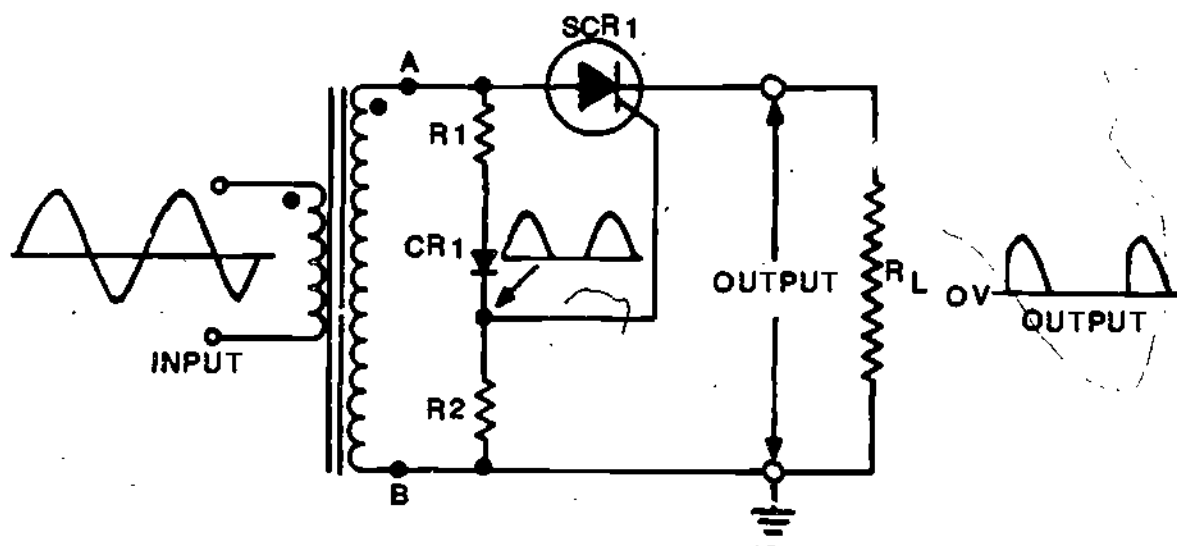

Figure 6
11. Although half-wave SCR power supplies are seldom used, due to the difficulty of filtering the output, examination of the half-wave SCR power supply will help you to understand how the full-wave SCR power supply operates. The schematic shown in figure 6 is that of one-half of a full-wave SCR power supply.
12. Again refer to the schematic shown in Figure 6. When R1 and R2 are of equal value, a peak voltage at terminal A of 100 volts will result in the waveform shown in Figure 7, taken at the top of R2 through two complete cycles. This voltage is used to trigger SCR1.